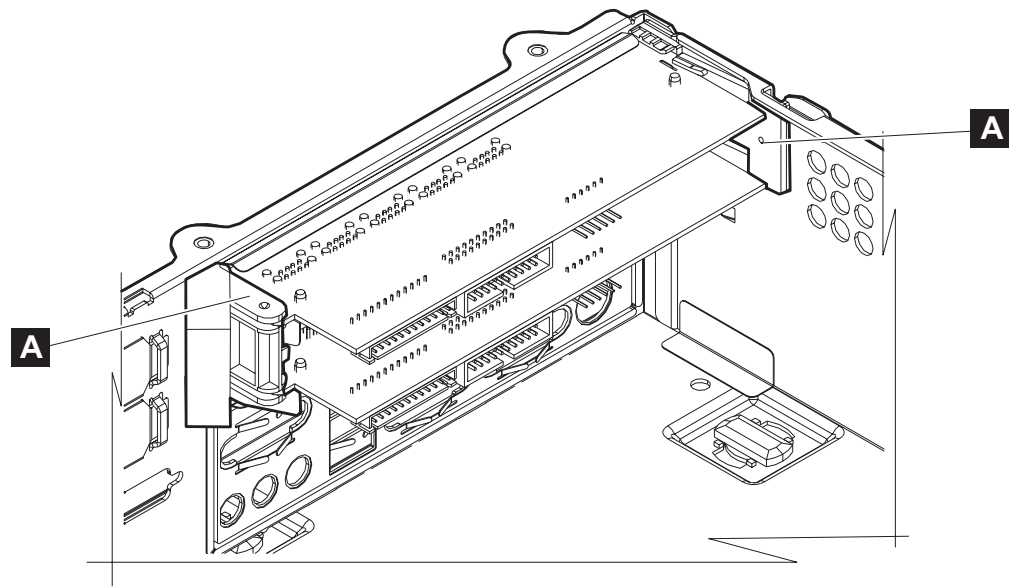

Figure 31. I/O module holders
5. Remove the screws (not shown) securing the I/O module holders (**A** in Figure 31).